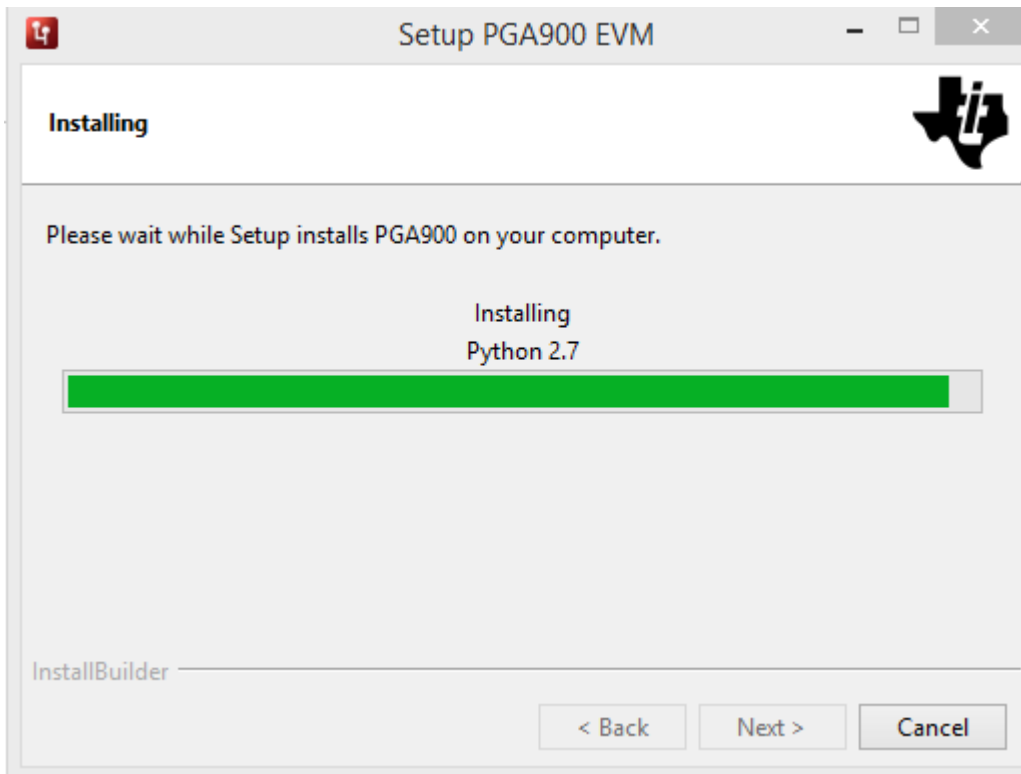

Figure 1-8. Installation in Progress
5. The installer begins self-extraction and proceed with the installation as shown in Figure 1-8.